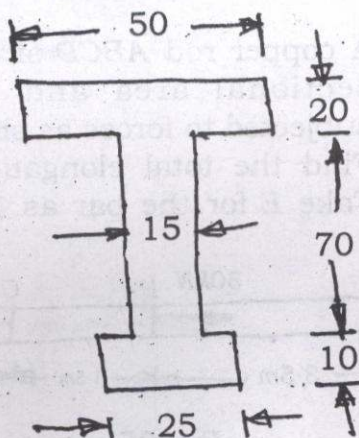

Fig. 03
5. The cross-section of a beam is shown in Fig. 03. The beam is made of material with permissible stress in compression and tension equal to 100MPa and 140MPa respectively. Calculate the moment of resistance of the cross-section, when subjected to a moment causing compression at the top and tension at the bottom.